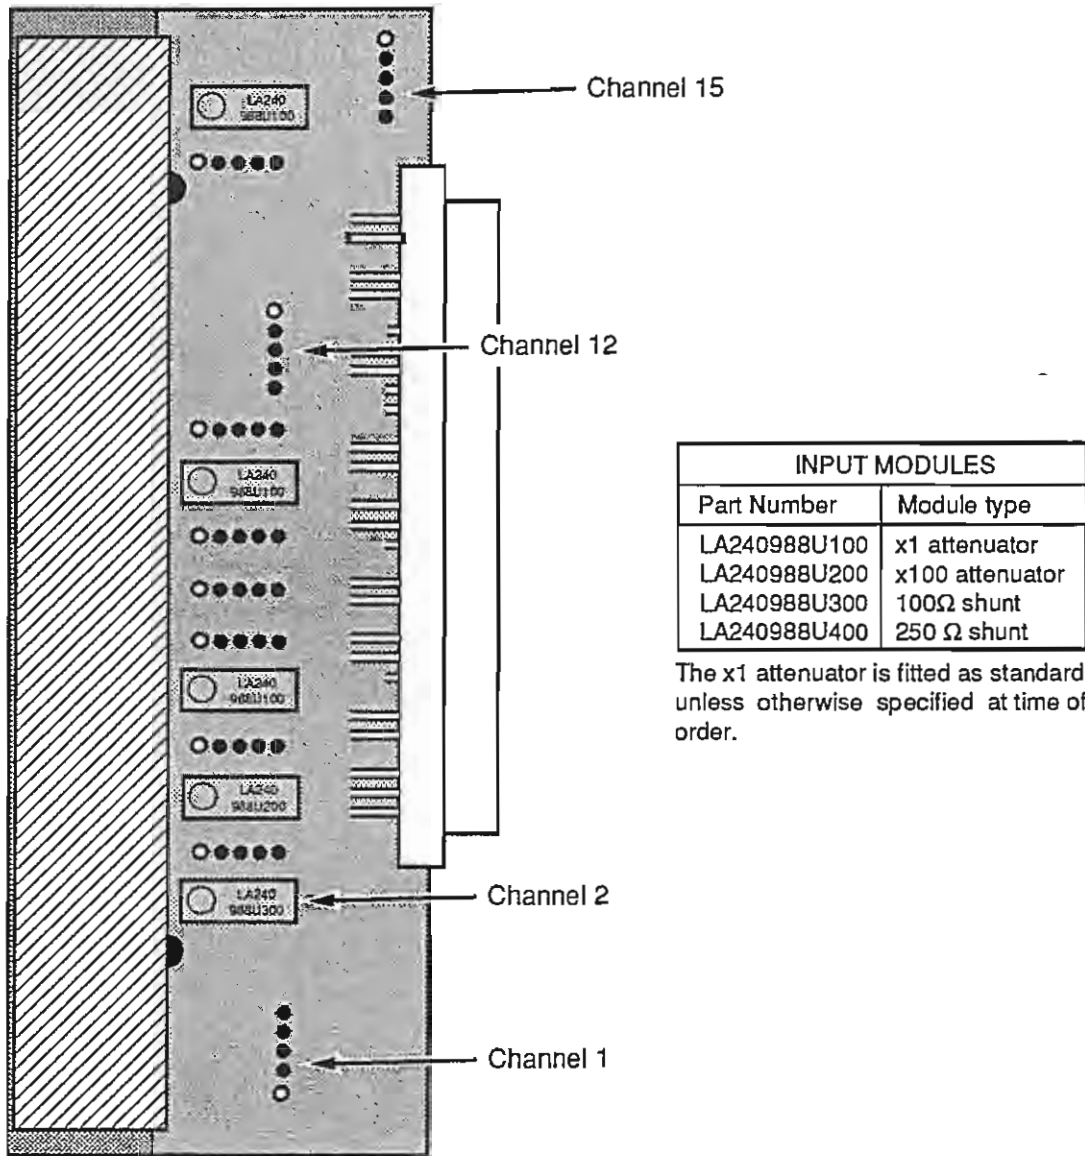

Figure 2.2.2d 15-channel analogue input SIM internal modules (typical configuration)
- d) Figure 2.2.2d shows module location within the 15 channel isolated analogue input board SIM to fit shunts and attenuators.